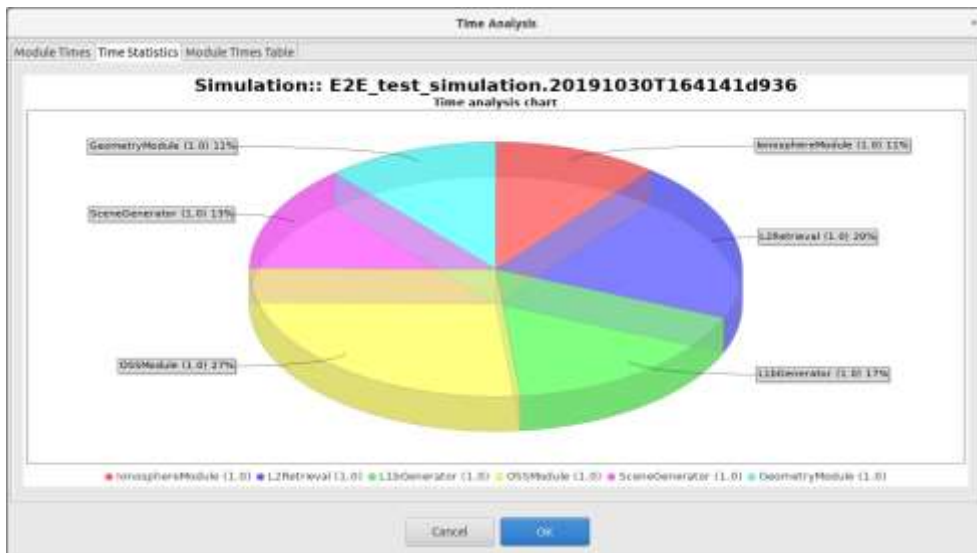

Figure 4-55: Pie chart showing the percentage of time
- ❑ *Time Statistics* tab: shows a pie with the simulation time percentage consumed by each module. In case there is more than one Simulation involving one Module, time is divided by the number of module repetitions. See Figure 4-55.